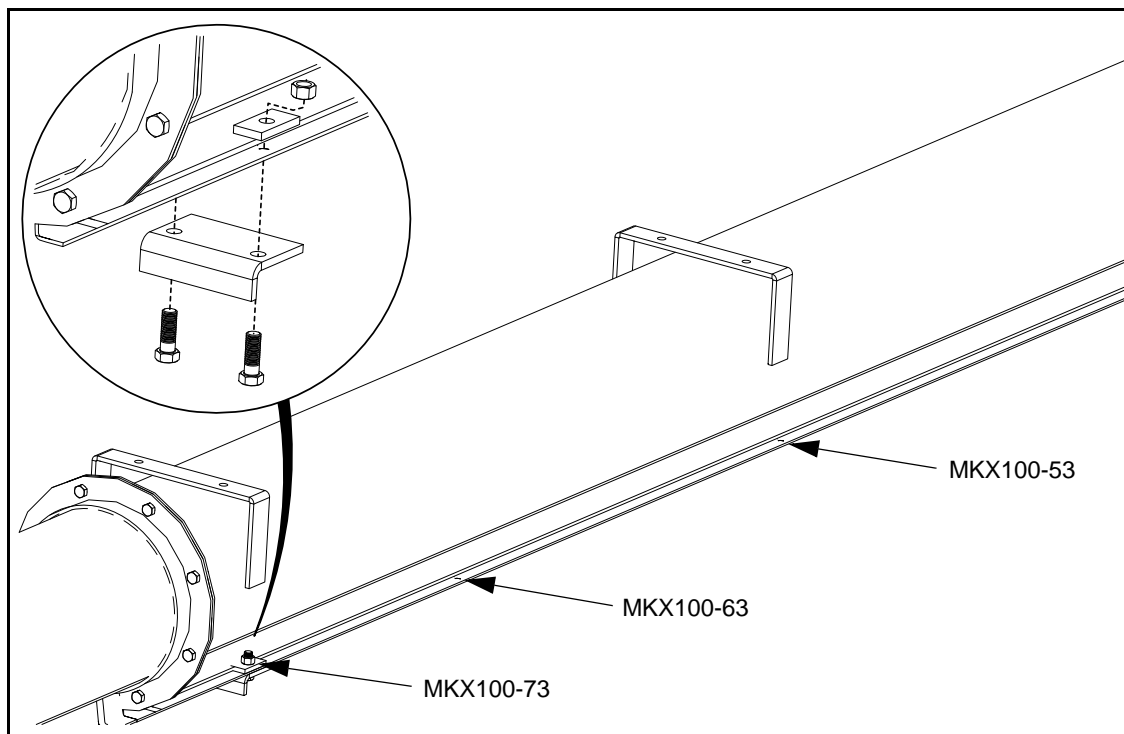
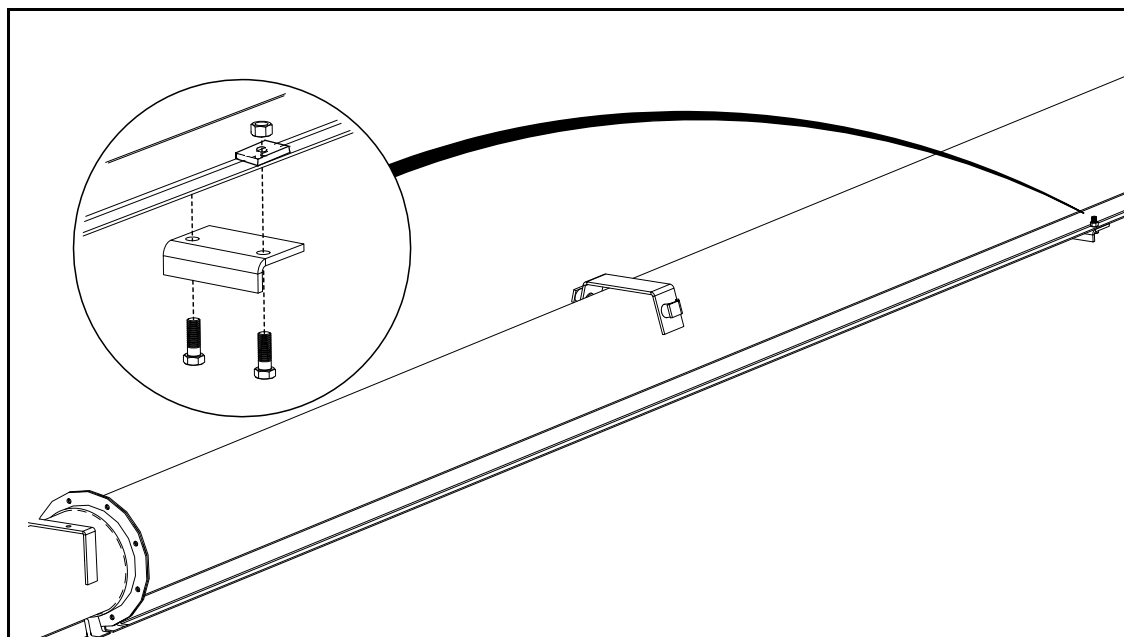

Figure 3.9 MKX100-53/63/73 Trackstop Locations
Figure 3.10 MKX100-83 Trackstop Location
4. Bolt the trackstop to the track (Figure 3.9, Figure 3.10) using two 7/16" x 1-1/4" bolts, locknuts, and flat iron washers.